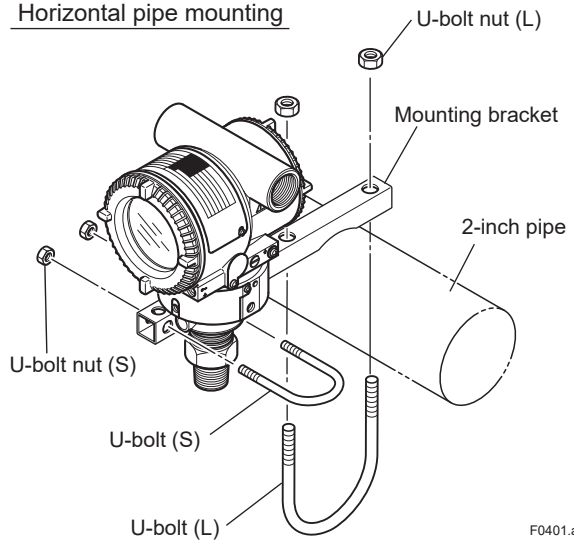

Figure 4.1 Transmitter Mounting
- The transmitter can be mounted on a nominal 2-inch pipe using the mounting bracket supplied, as shown in Figure 4.1.